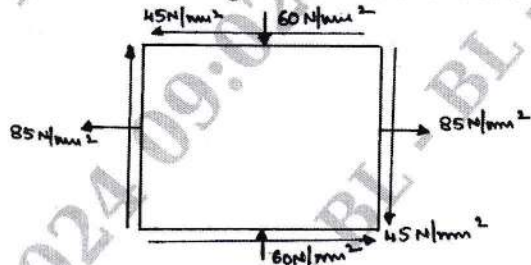

Fig.Q2(b) (10 Marks)
- b. For the state of stress shown in Fig.Q2(b), determine the principal stresses and locate principal planes. Also obtain maximum tangential stress and locate corresponding planes.